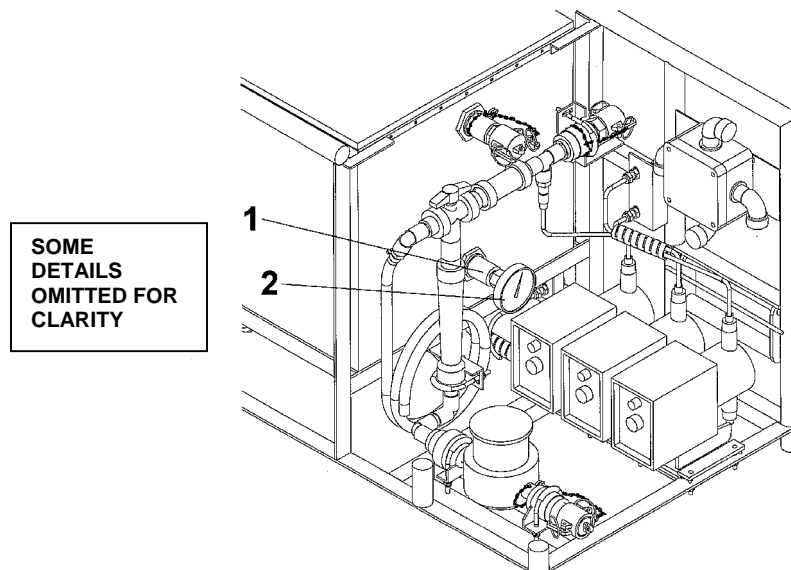

Figure 1. Cleaning Tank Thermometer.
1. Cleaning tank thermometer (2) is located on the side of the cleaning tank. See Figure 1.